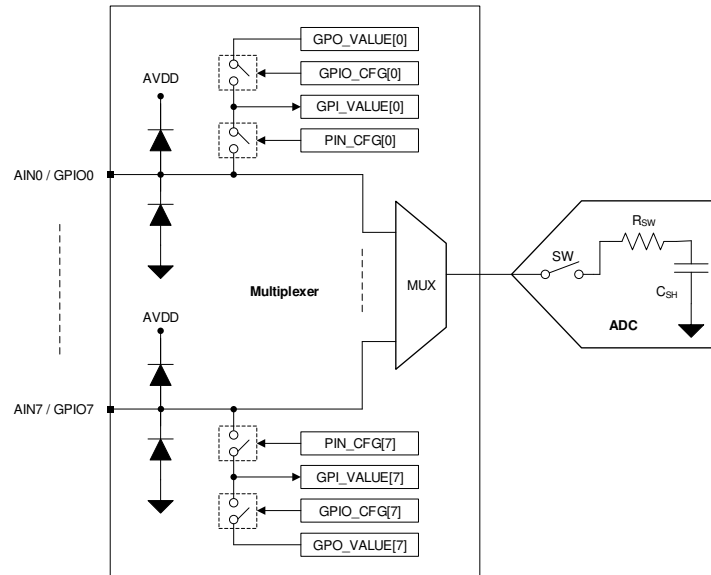

图 6-1. Analog Inputs, GPIOs, and ADC Connections
The eight channels of the multiplexer can be independently configured as ADC inputs or general-purpose inputs/outputs (GPIOs). As shown in 图 6-1, each input pin has ESD protection diodes to AVDD and GND. On power-up or after device reset, all eight channels of the multiplexer are configured as analog inputs.
图 6-1 shows an equivalent circuit for the pins configured as analog inputs. The ADC sampling switch is represented by an ideal switch (SW) in series with a resistor (R_{SW} , typically $150\ \Omega$) and a sampling capacitor (C_{SH} , typically $30\ \text{pF}$). During acquisition, the SW switch is closed to allow the signal on the selected analog input channel to charge the internal sampling capacitor. During conversion, the SW switch is opened to disconnect the analog input channel from the sampling capacitor.
To enable write access to the configuration registers for diagnostics, write 0x96 in the DIAGNOSTICS_KEY register. To enable bit-walk test mode, configure BITWALK_EN = 1b. In the bit-walk test mode (see 图 6-1), the sampling switch (SW) remains open and the test voltage is applied on the sampling capacitor (C_{SH}) during the acquisition phase of the ADC. In diagnostic mode, the conversion process of the ADC remains the same as normal device operation. The ADC starts the conversion phase on the rising edge of \overline{CS} and outputs the code corresponding to the sampled test voltage. The output code of the ADC is expected to be proportional to the test voltage, as shown in 方程式 2, after adjusting for DC errors (such as INL, gain error, offset error, and thermal drift of offset and gain errors).